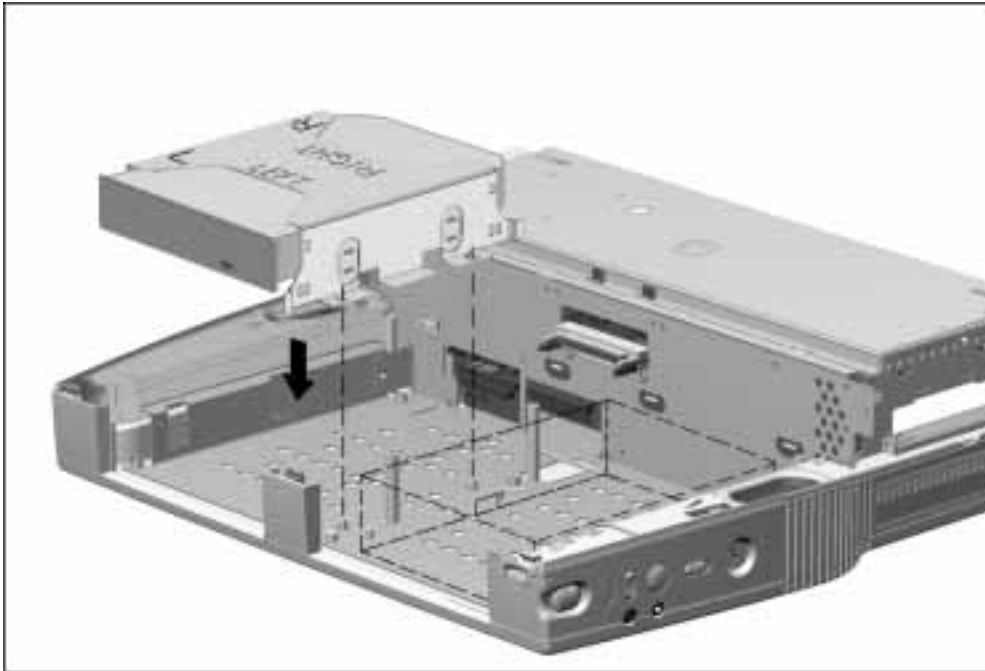

Figure 5-20. *Installing a Half-Height Drive*
7. Insert the half-height drive assembly in the base assembly, making sure to align the alignment holes on the drive cage with the alignment pins in the base assembly (Figure 5-20).